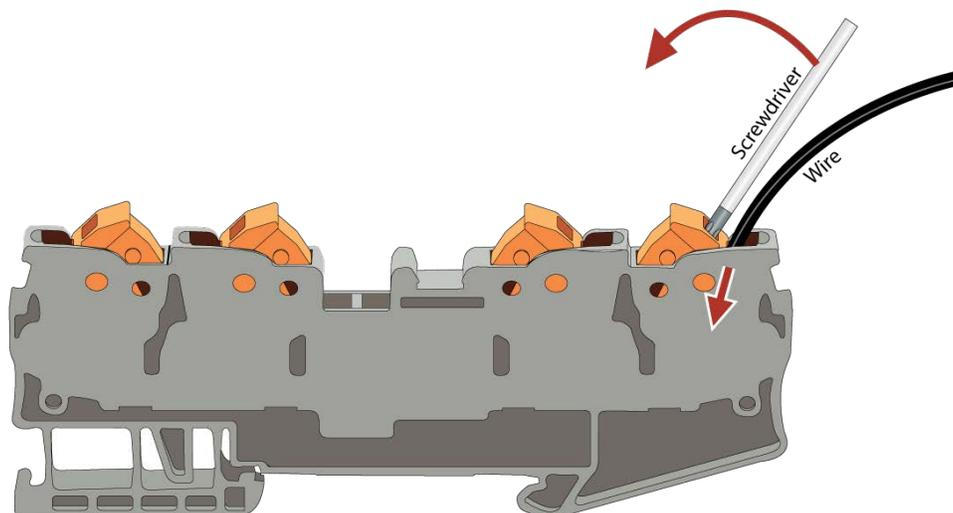

Figure 1-9: Terminal Block Quick Connect
3. Connect the external user-supplied AC supply at TB1 (⊖), TB2 N (L2), and TB3 L (L1). Refer to Table 1-6, Figure 1-9, and Section 2.2.1.